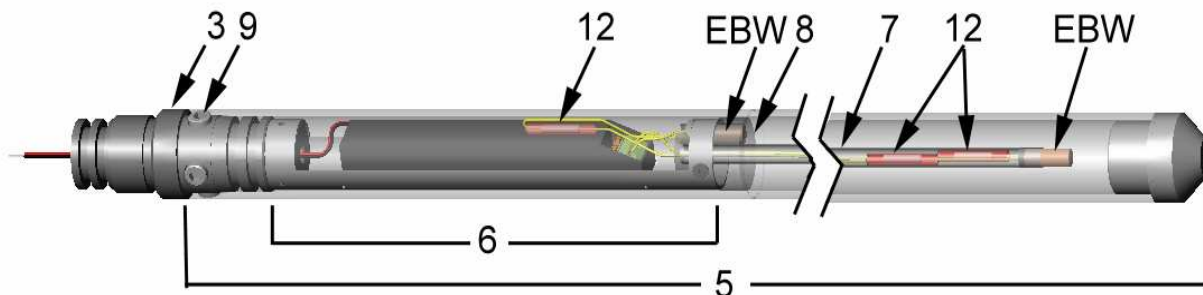
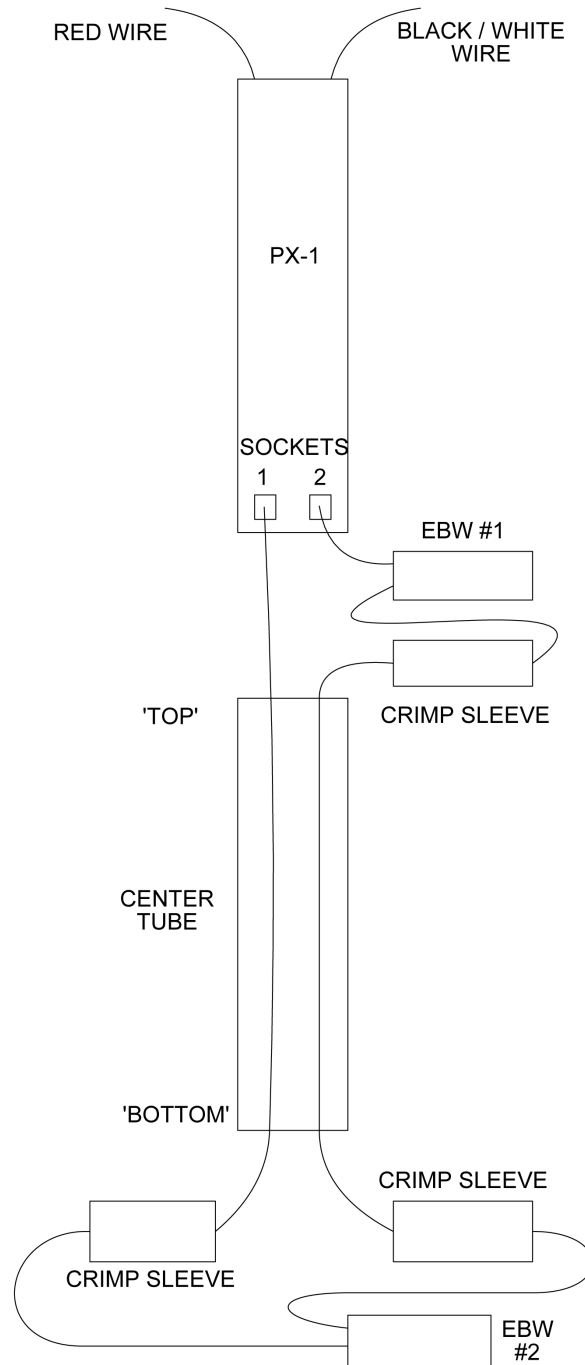

Figure 3: Arming a Drill Collar Severing Tool
Figure 7: Severing Tool Wiring Diagram
2.4 Electrically connect the EBW to the top end of the tool, see Figure 3. One wire should be inserted into the empty socket of the PX-1 Fireset, and the other wire should be inserted into the Crimp Sleeve (item #12). Fold the exposed leadwire over itself, and crimp it in the Crimp Sleeve.
2.5 Electrically connect the other EBW to the bottom end of the center Tube assembly, see Figure 3. Fold each wire over itself and insert it into a Crimp Sleeve at the end of the tube and crimp in place. See figure 7 at the end of this manual for simplified wiring diagram showing how EBW's are wired in series.